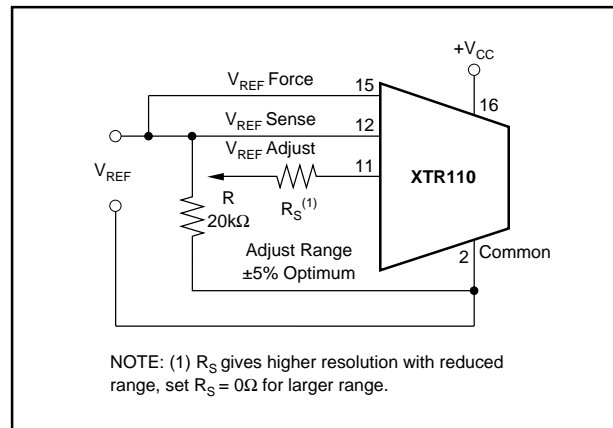

FIGURE 3. Optional Adjustment of Reference Voltage.
NOTES: (1) Including internal reference. (2) Span is the change in output current resulting from a full-scale change in input voltage. (3) Within compliance range limited by $(+V_{CC} - 2V) + V_{DS}$ required for linear operation of the FET. (4) For V_{REF} adjustment circuit see Figure 3. (5) For extended I_{REF} drive circuit see Figure 4. (5) Unit may be damaged. See section, "Input Voltage Range".
3 should be connected to this point. The circuit in Figure 3 shows adjustment of the voltage reference.